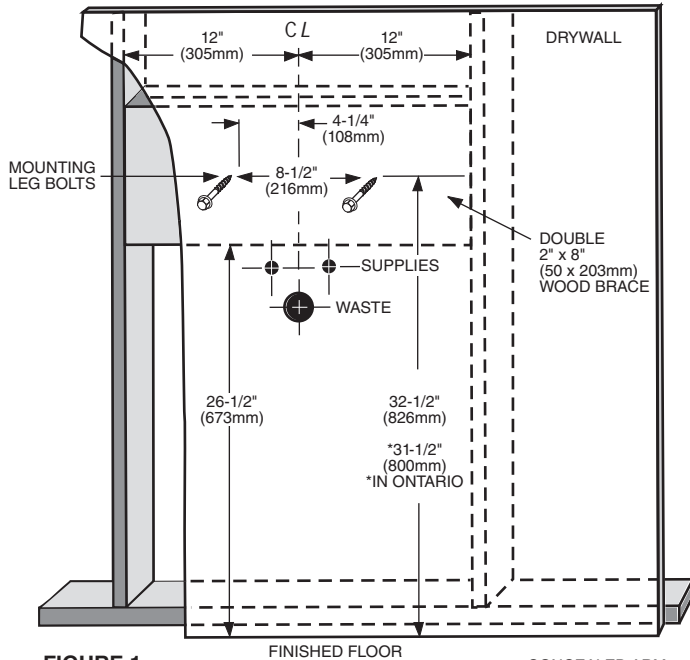

FIGURE 1
**Provide Rough-In:** Install waste pipe. Space supplies (hot/cold screwdriver stops) 1-5/8" (41mm) to either side of centre. Firmly attach two 2" x 8" (50 x 203 mm) wood braces to wall studs. Bottom of brace should be 26-1/2" (673 mm) up for floor and extend a minimum of 12" (305 mm) to either side of waste. Complete drywall installation (see Figure 1).